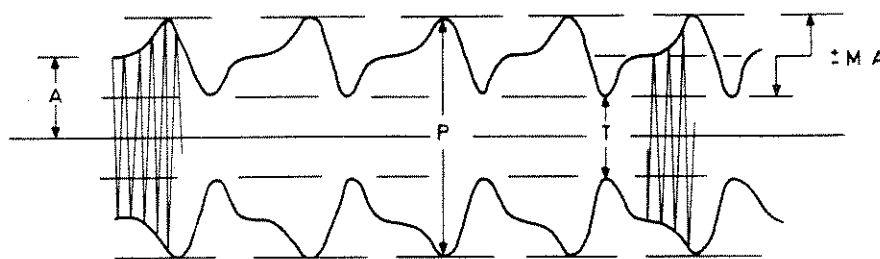

Fig. 2 Typical full a.m. signal symmetrical modulation
51. A typical a.m. signal is shown in Fig. 2. In this signal the peaks of modulation are equally spaced about the zero level of the modulating waveform and, consequently, are also symmetrical about the mean - or unmodulated - level of the carrier. With such a signal the 2305 should produce the same reading on both P+ and P- and therefore also on  $\frac{P-P}{2}$ . Any signal may, however, include distortion of the carrier component depending on the nature of the source and whether or not any tuning or filtering at carrier frequency has been given. Harmonics of the carrier will be much reduced by the 2305 which will therefore measure modulation on the fundamental component of the carrier (as displayed in the FREQUENCY window) and this sometimes differs from the amount present on the signal with carrier distortion present. The reason for this is not immediately evident but it is more likely that an oscilloscope will pass some distortion of the carrier than will a tuned modulation meter. Differences can often be detected in these circumstances between successive oscilloscope measurements, based on  $AM = \frac{P - T}{P + T}$ , made with and without initial harmonic filtering. Differences will also arise if the modulation is asymmetrical.